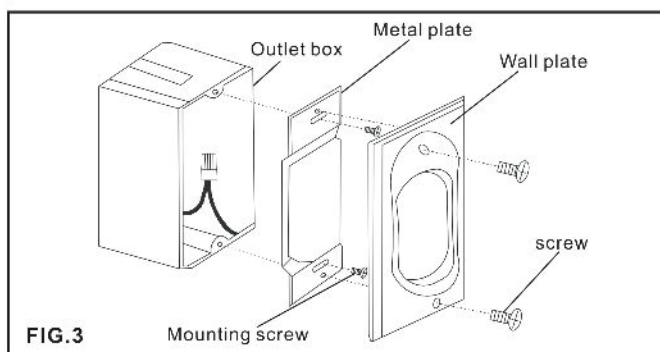

FIG. 3
Step 2: Attach the metal plate and wall plate to the existing wall outlet box with 4 screws provided. Then place the plastic plugs into the wall plate. (FIG.3)